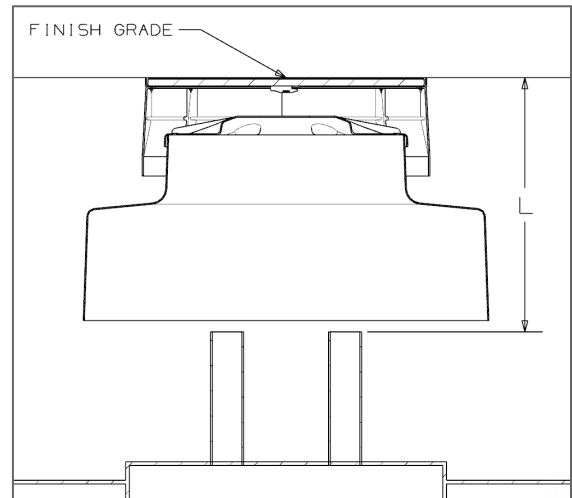

Figure 2
**Step 2:** Set Matador manhole assembly (skirt, ring, and cover) to the final grade position, (See Figure 2). Please note that during the backfill process care must be taken to nest the skirt into the backfill material for proper skirt support. Also take care to not misshape the skirt due to over tamping of the backfill material. If the skirt is forced into an improper condition it must be repositioned and properly supported to ensure the below defined clearances are maintained during and after concrete installation.